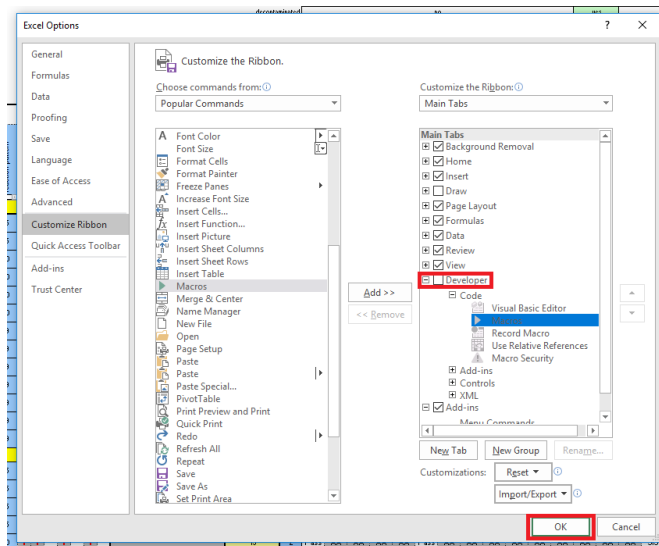

Figure 7.2: Show *Developer* tab in Excel
*Developer* tab must be visible to interact with macros. The way to activate it is to select *Developer* in the *Customize the Ribbon* option as shown in Fig. 7.2